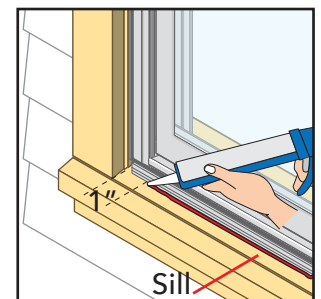

Figure 5
**NOTE:** For full frame replacement in brick or siding, where the wall is designed to manage water do not leave gaps or weeps in the exterior sealant. For pocket replacement, if weep holes are not present in the sill adapter and the existing sill slopes to the exterior, leave weep gaps in the sealant (Figure 5).